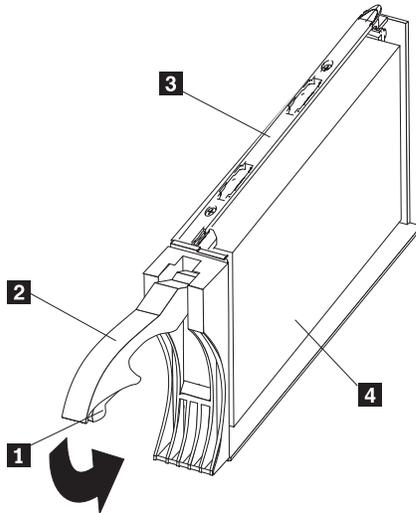

Figure 60. Drive latch on a hot-swap drive
- a. Press on the inside of the bottom of the tray handle to release the blue latch **1**. See Figure 60 on page 76.